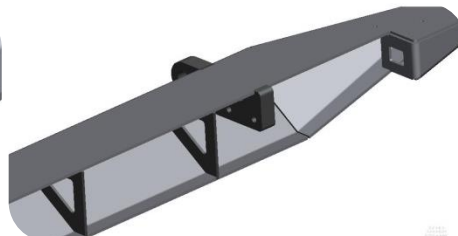

Figure 3
3. Insert the bumper gussets into the slots provided and tack weld in place. **(Figure 3)**